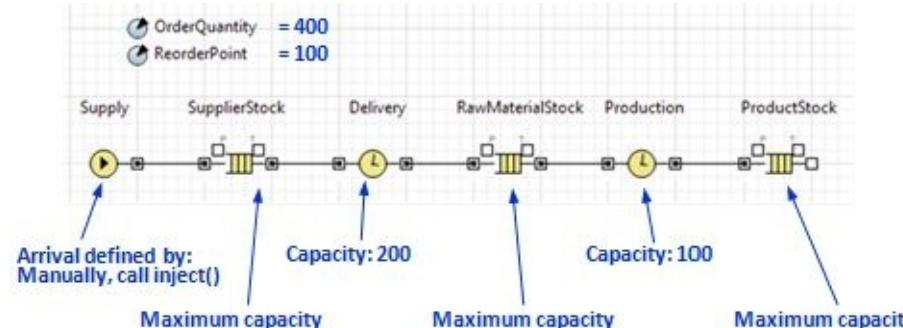

Figure 6.19 The discrete event model of the supply chain
4. Create the stock and flow diagram as shown in Figure 6.19. You can place the diagram below the supply chain flowchart.